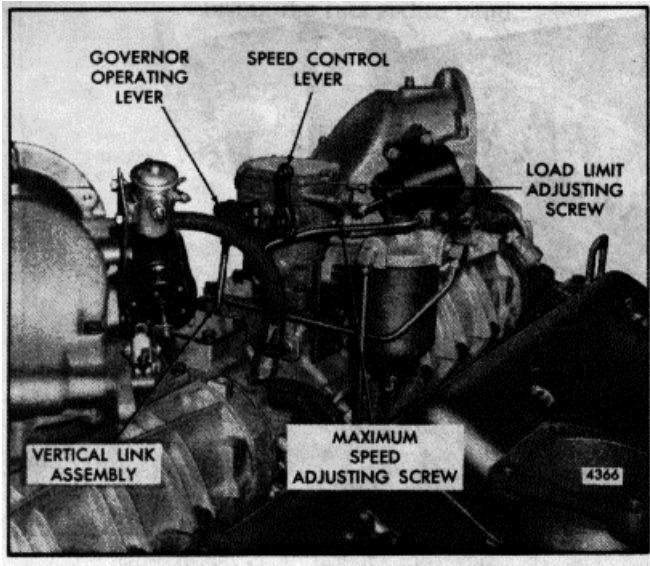
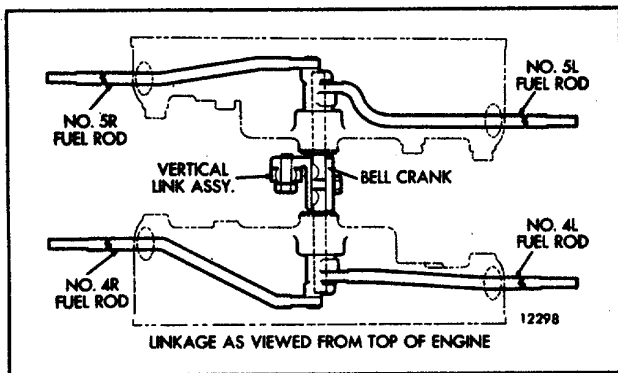

Fig. 12. - Hydraulic Governor Mounting
Fig. 13. - Governor to Injector Rack Control Linkage
The governor on the 16V engine is mounted on and driven from the front end of the rear blower (Fig. 12). The governor-to-injector control tube linkage is shown in Fig. 13.
3. Disconnect the vertical link assembly from the governor operating lever and the bell crank lever (Fig. 13).